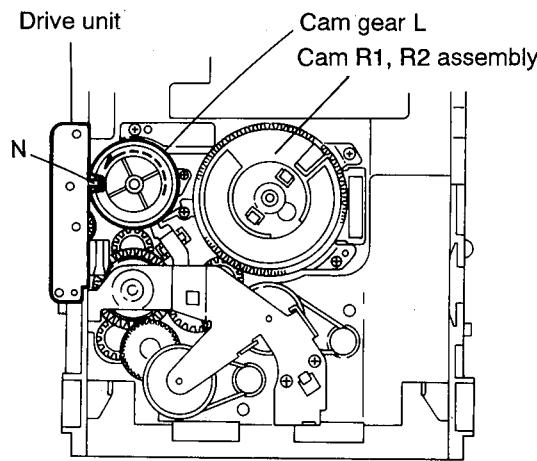

Fig. 2-25
(See Figs. 2-25 and 2-27)
- While turning the cam gear L, align the pawl (N) position of the drive unit to the notch position (Fig. 2-25) on the cam gear L.